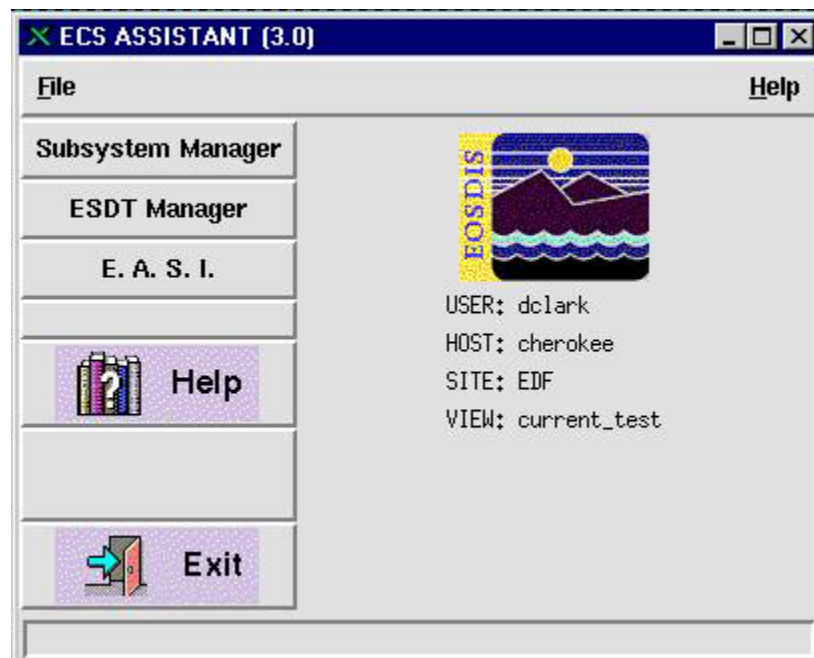

Figure 26.10.2.1-1. ECS Assistant Main GUI
- This will invoke the ECS Assistant GUI with three push buttons for selecting the proper activities, as indicated in Figure 26.10.2.1-1.